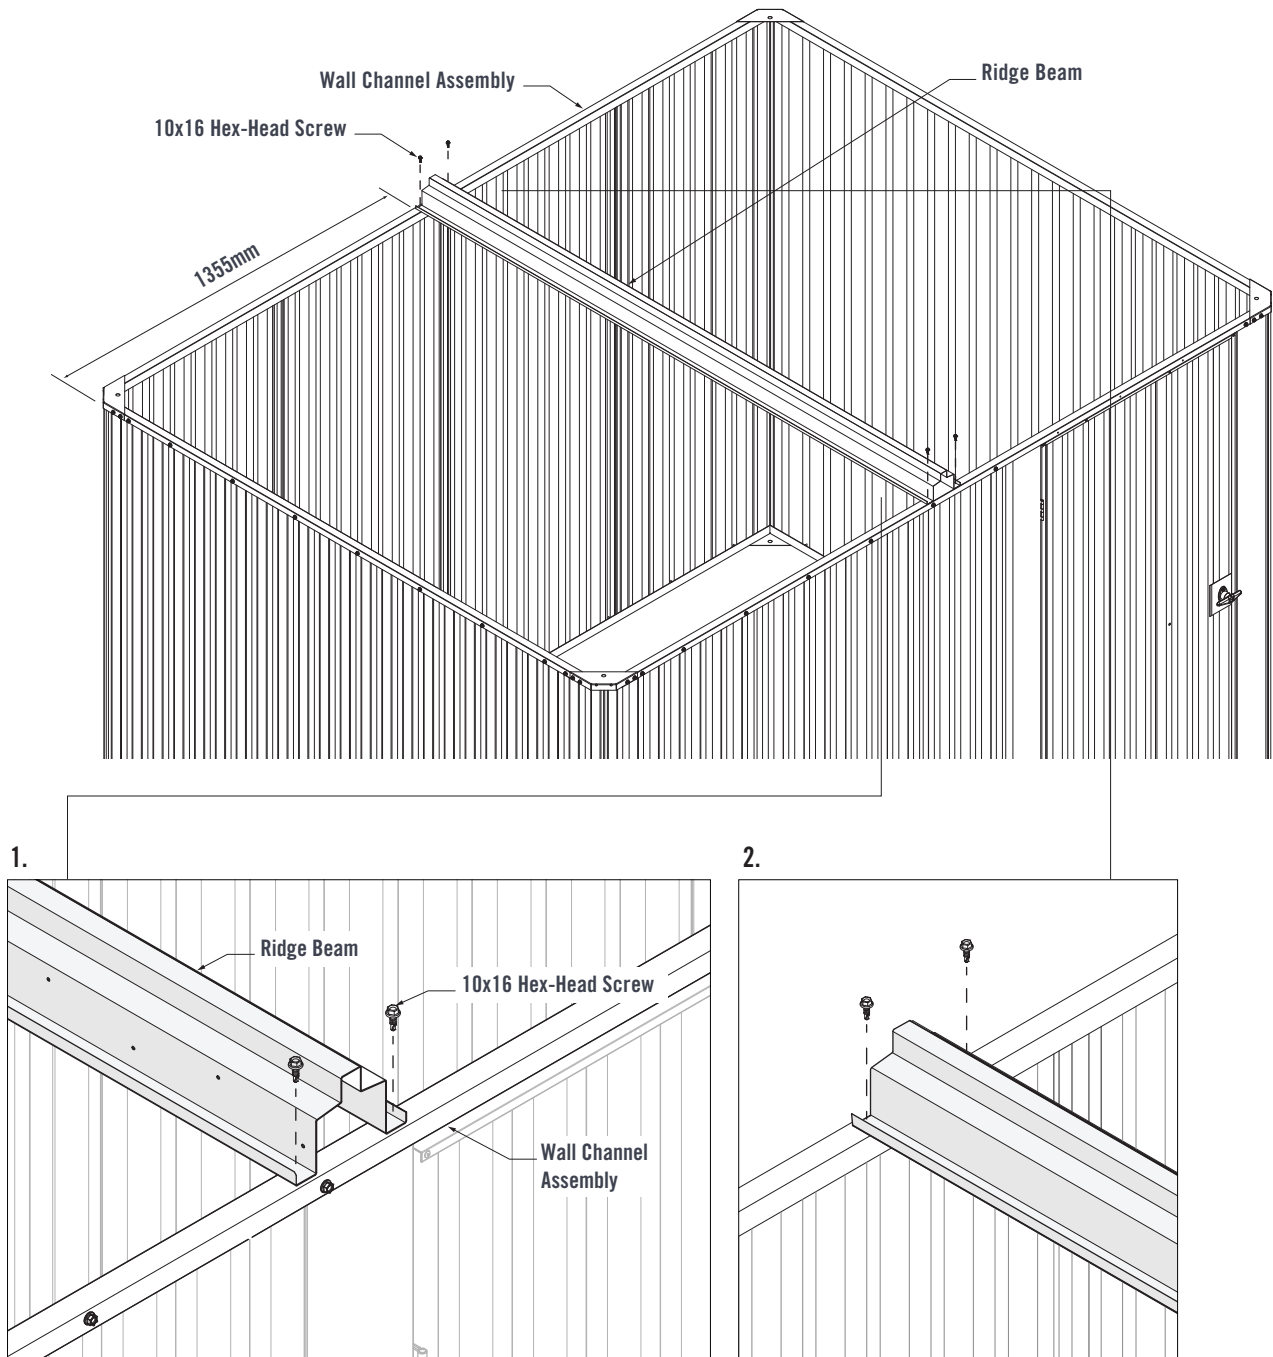

FIGURE 7.1
2. Fasten two 10x16 Hex-Head Screws through the pilot holes in the Ridge Beam and into the rear Wall Channel (Figure 7.1).